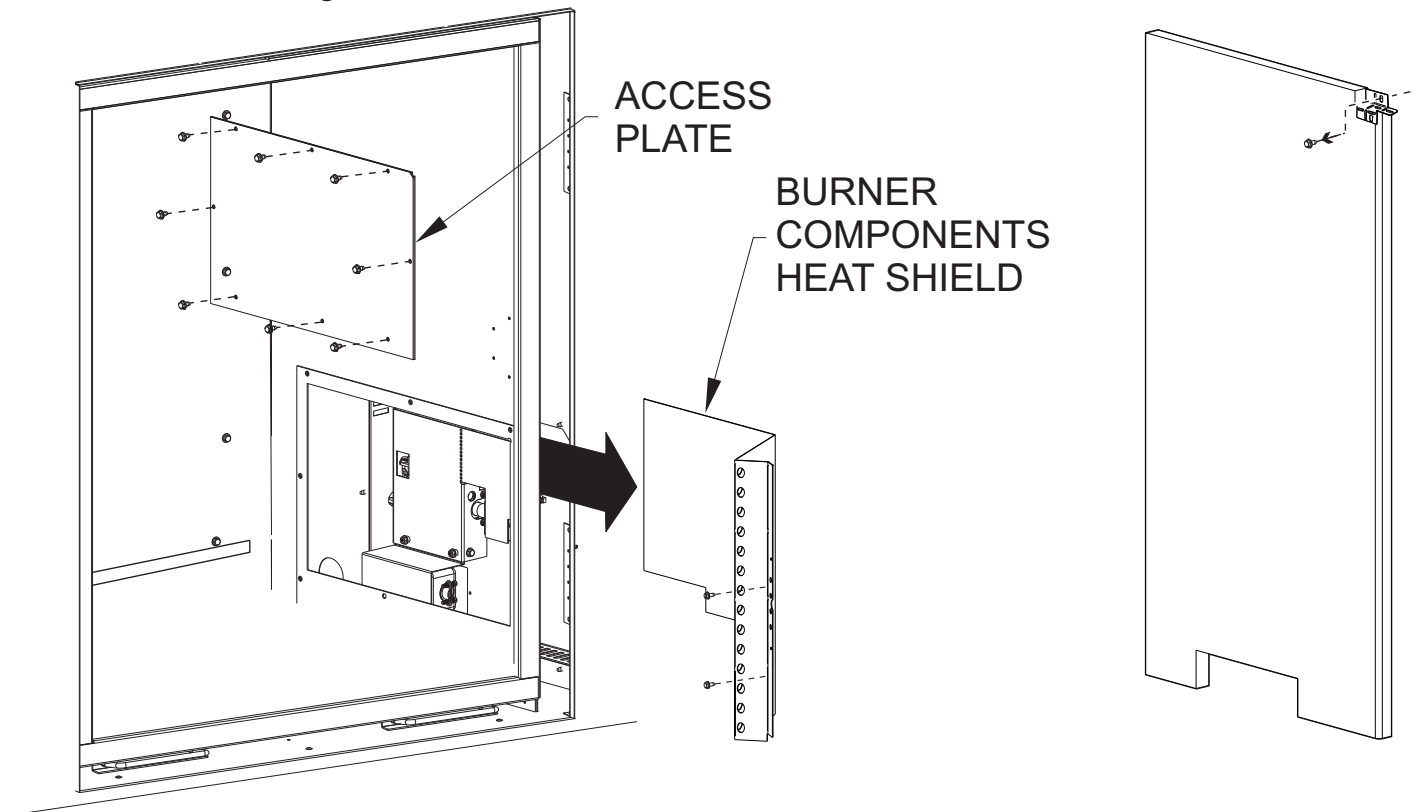

Figure 86
2. Remove the Burner Components Heat Shield. **See Figure 86.**
5. Remove the Access Plate. **See Figure 86.**